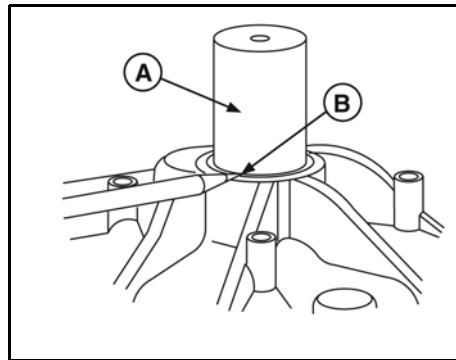

Figure 9
3. Insert bushing driver tool (A, Figure 9) into bearing from oil seal side. Place a reference mark (B) on driver to indicate proper depth when installing the new bearing.